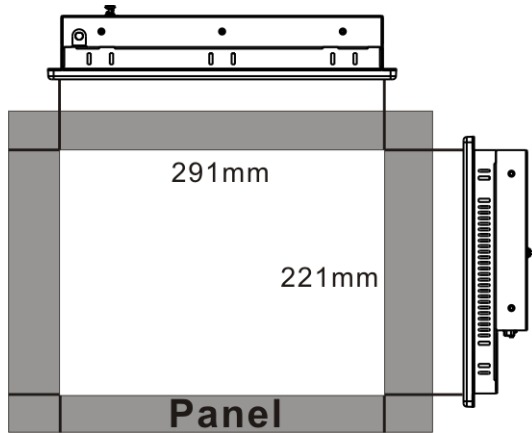
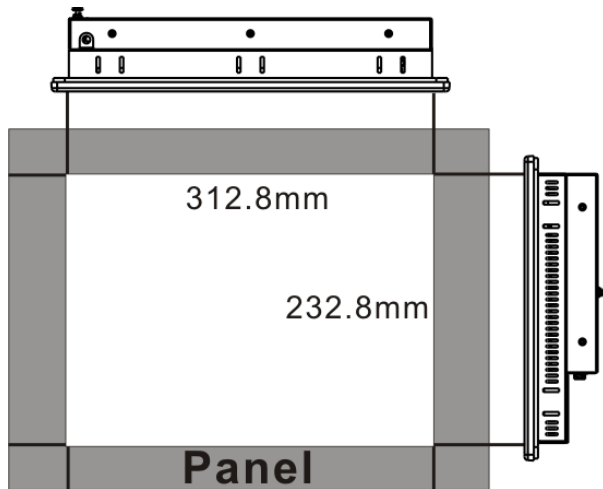

Figure 3-11: 2901190 Panel Opening
Figure 3-12: 2901200 Panel Opening
- Step 2:** Cut out a section from the panel that corresponds to the rear panel dimensions of the flat panel PC. Take care that the panel section that is cut out is smaller than the overall size of the metal frame that surrounds the flat panel PC but just large enough for the rear panel of the flat panel PC to fit through (**Figure 3-11** and **Figure 3-12**).